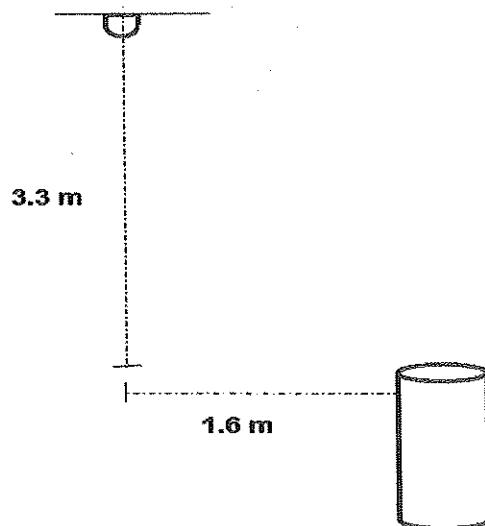

Figure QB1
- (c) An LED lamp with a luminous intensity of 2850 cd is located 3.3 m on the ceiling (measured from the work surface) as shown in Figure QB1. The table is situated 1.6 m away from the light source and the radius of the table is 0.3 m.